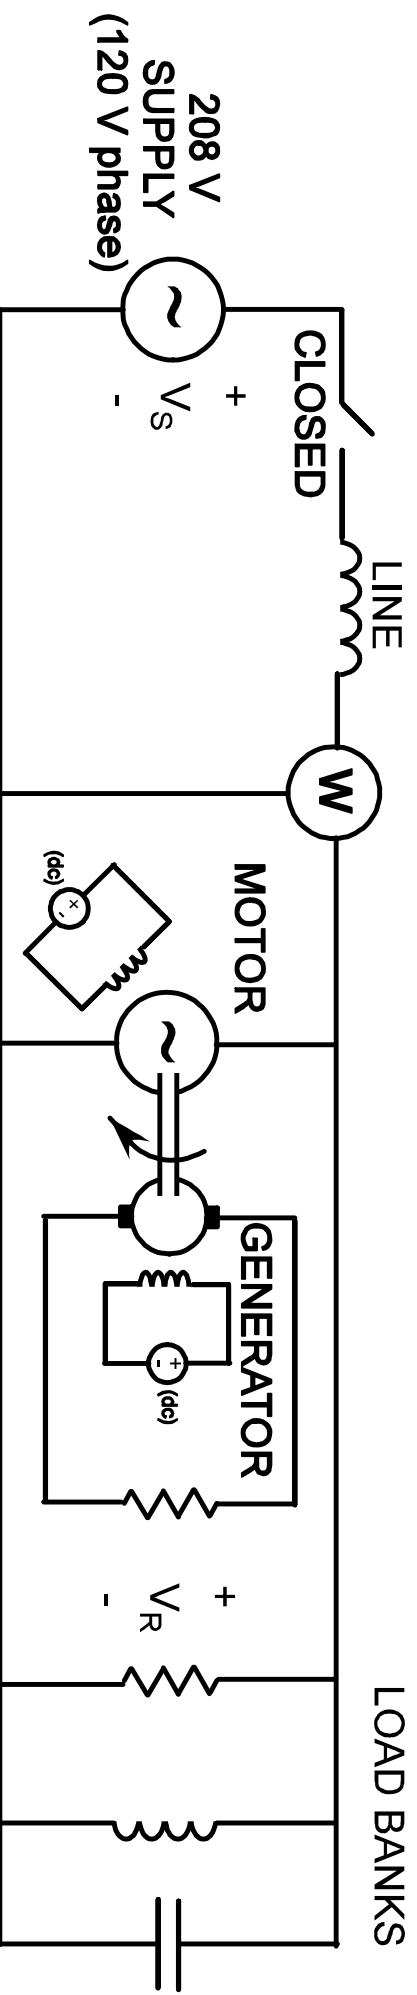

Figure 2 - Synchronous Machine as a Motor
6. Switch everything off. Re-configure the machines as a synchronous motor driving a separately-excited generator with the resistive (DC) load bank. The AC load bank should be placed in parallel with the synchronous motor, as shown in figure 2. The Yokogawa meter should now measure power and voltage at the receiving end of the transmission line.